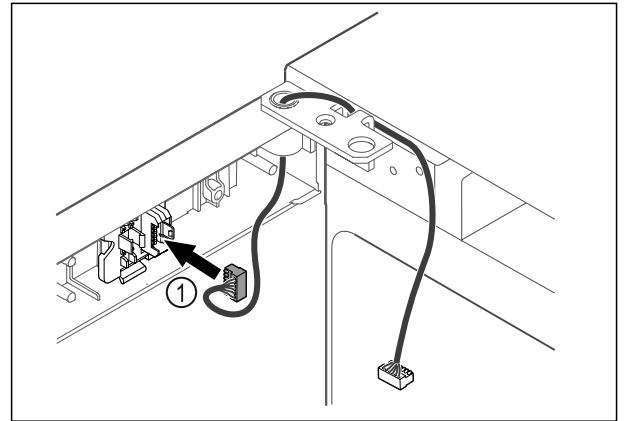

Fig. 37
- ▶ Put the plug Fig. 37 (1) in the plug holder.